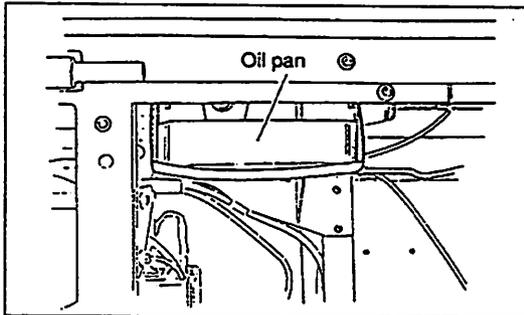

Fig. 72
2. Install the oil pan after raising it until both ends of the oil pan fits inside the frame as illustrated in Fig. 72.